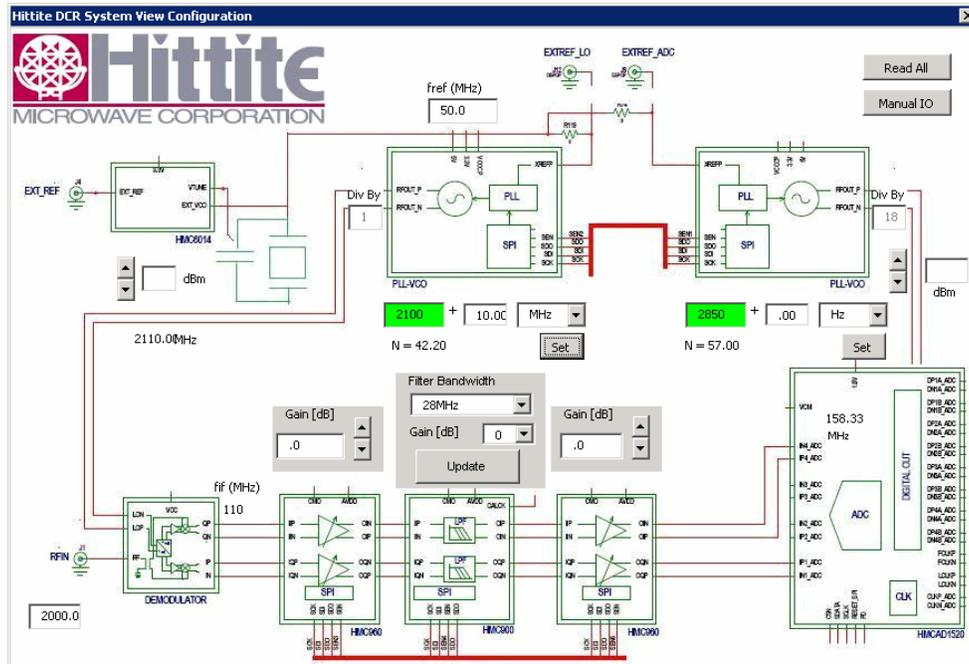

Figure 19. Hittite System View Configuration Dialog Configured with LO = 2110 MHz
9. At this point the analog part needs to be configured to the desired setup. Currently, it is configured to default configuration, and the ADC part is appropriately configured to interface with the analog part (input channels have been chosen, and the clock rate has been set). To configure the analog part of the DCR for the test input signal, program the LO PLL to 2110 MHz (for 10 MHz IF frequency) and leave the other settings (gain and bandwidth) unchanged so that their effects can be viewed. Resulting 'Hittite DCR System View Configuration' is shown in Figure 19.